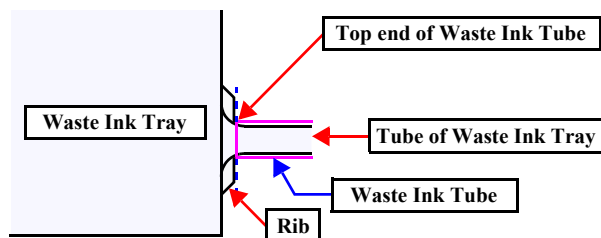

Figure 4-43. Cautions of inserting the Waste Ink Tube
- As shown in Fig.4-43, insert the Waste Ink Tube over the tube of the Waste Ink Tray until the top end of the Waste Ink Tube contacts with the rib.